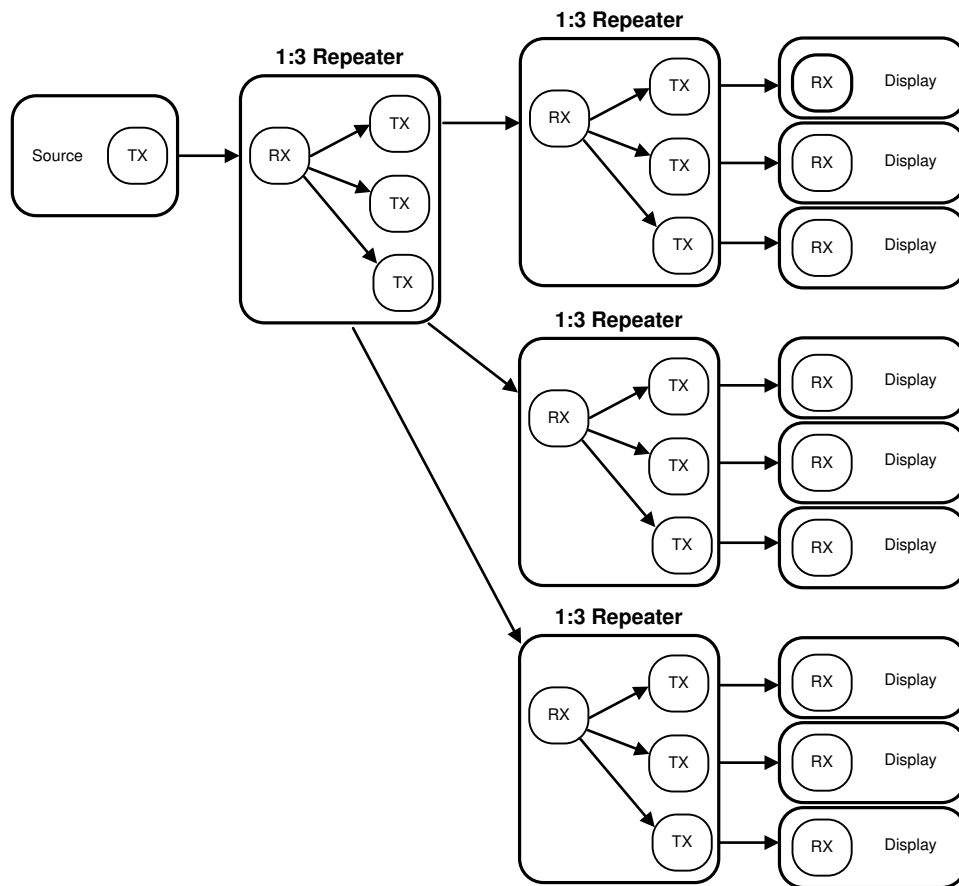

Figure 7-9. HDCP Maximum Repeater Application
In the HDCP repeater application, this document refers to the DS90UH947-Q1 as the HDCP transmitter (TX), and refers to the DS90UH948-Q1 as the HDCP receiver (RX). Figure 7-9 shows the maximum configuration supported for HDCP repeater implementations. Two levels of HDCP repeaters are supported with a maximum of three HDCP Transmitters per HDCP receiver.